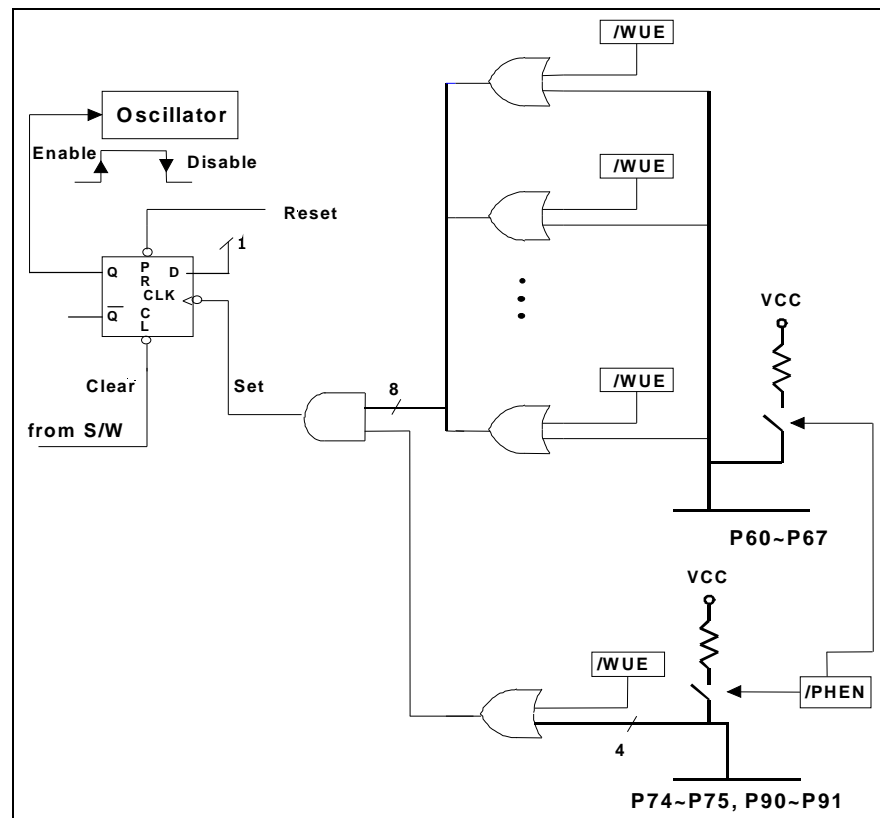

Figure 5-4 Block Diagram of Sleep Mode and Wake-up Circuits on I/O Ports
**Bit 4 (SLPC):** This bit is set by hardware at a falling edge of the wake-up signal and is cleared by software. The SLPC is used to control the oscillator operation. The oscillator is disabled (the oscillator stops, and the controller enters the Sleep 2 mode) on the high-to-low transition and is enabled (the controller is awakened from Sleep 2 mode) on a low-to-high transition. In order to ensure a stable output of the oscillator, once the oscillator is enabled again, there is a delay of approximately 18 ms (oscillator start-up timer (OST)) before the next program instruction is executed. The OST is always activated by a wake-up from sleep mode whether the Code Option bit ENWDT is "0" or not. After waking up, the WDT is enabled if the Code Option ENWDT is "1". The block diagram of Sleep 2 mode and wake-up caused by the input trigger is depicted in Figure 5-4. The SLPC bit can be read and written to.